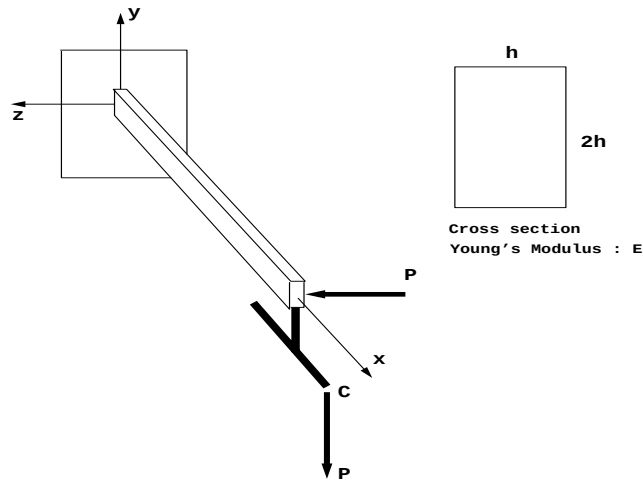
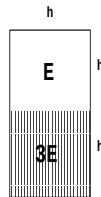

Figure 3: Problem 2-b
Figure 4: Problem 2-c
- (b) (18pts) A point load P is acting at C in the negative y direction and another point load P is acting at F in the positive z direction, as shown in Figure 3.
- (c) **(23pts)** The same beam structure with the same loads as shown in Figure 3 is considered. However, the cross section of the beam DF consists of two different materials as shown in Figure 4,